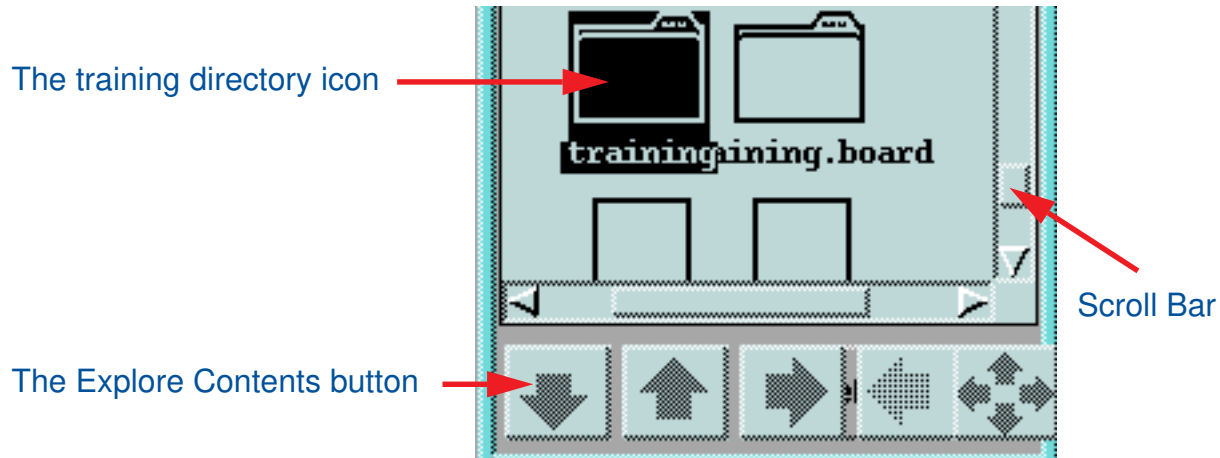

Figure 4. Locating and Navigating into the Training Directory
6. Locate the icon for your *training* directory in the navigator window, as shown in Figure 4. You might have to use the scroll bar to find it if you have many items in your current directory. After you locate the *training* directory icon, place the cursor on it and click the Select mouse button. Finally, press the Explore Contents button by placing the cursor on it and clicking the Select mouse button.